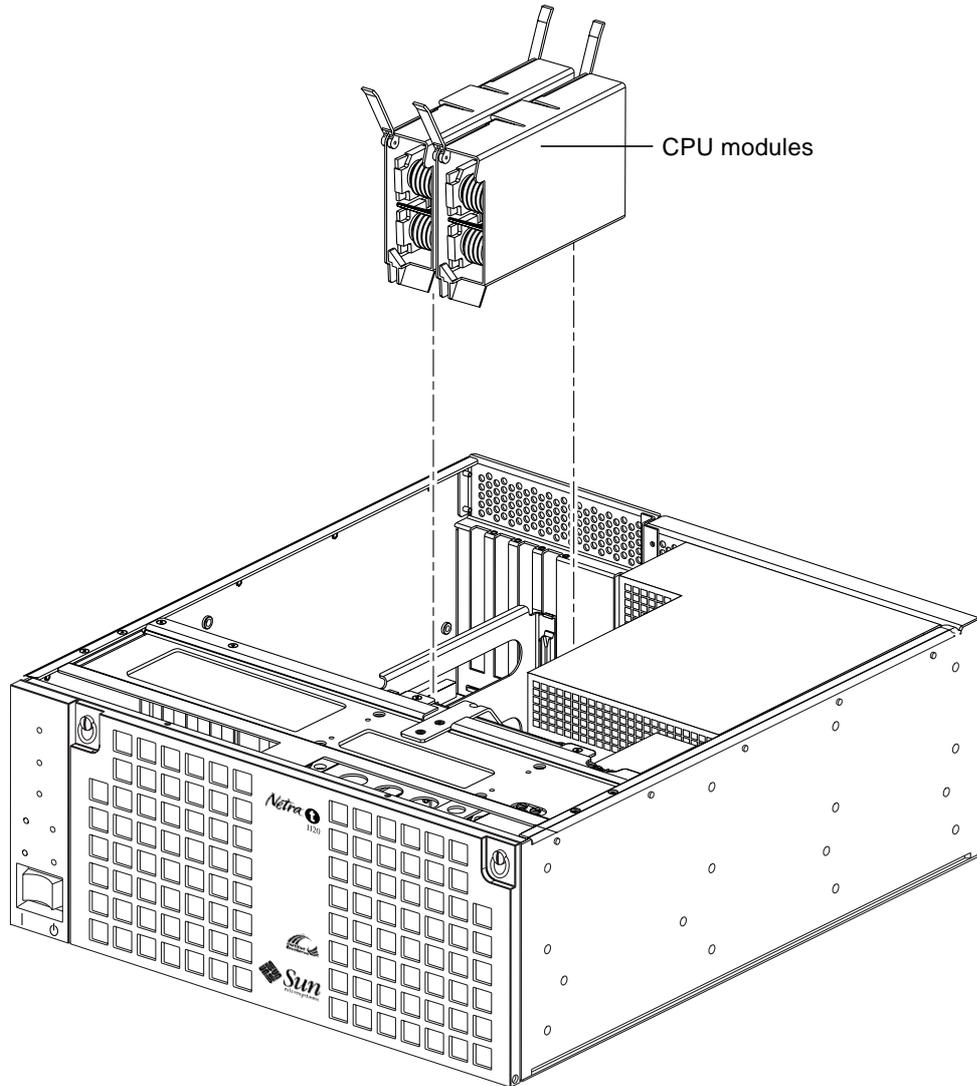

FIGURE 10-2 Removing and Replacing CPU Modules
- 5. Lower the CPU module along the vertical plastic guides until the module touches the motherboard slot socket. Ensure connectors are aligned. See (FIGURE 10-2 on page 10-3). With both hands, simultaneously turn and press the levers downward to the fully horizontal position.**